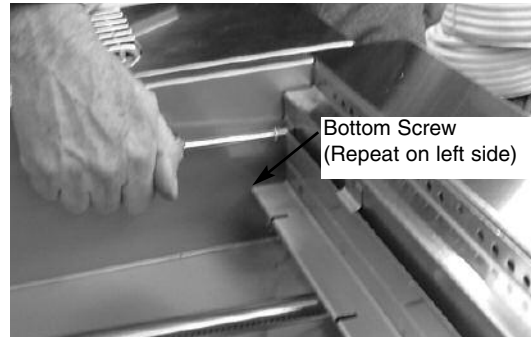

Fig 7
7. Loosen the bottom heat shield screws located under the bottom lip of the heat shield. (there is one screw on each side) (See Fig. 7)